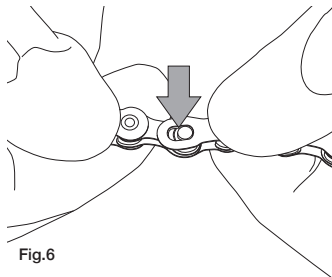

Fig.6
- Fit the pins into the area with the largest slot diameter of the C-Link™ (Fig. 6).